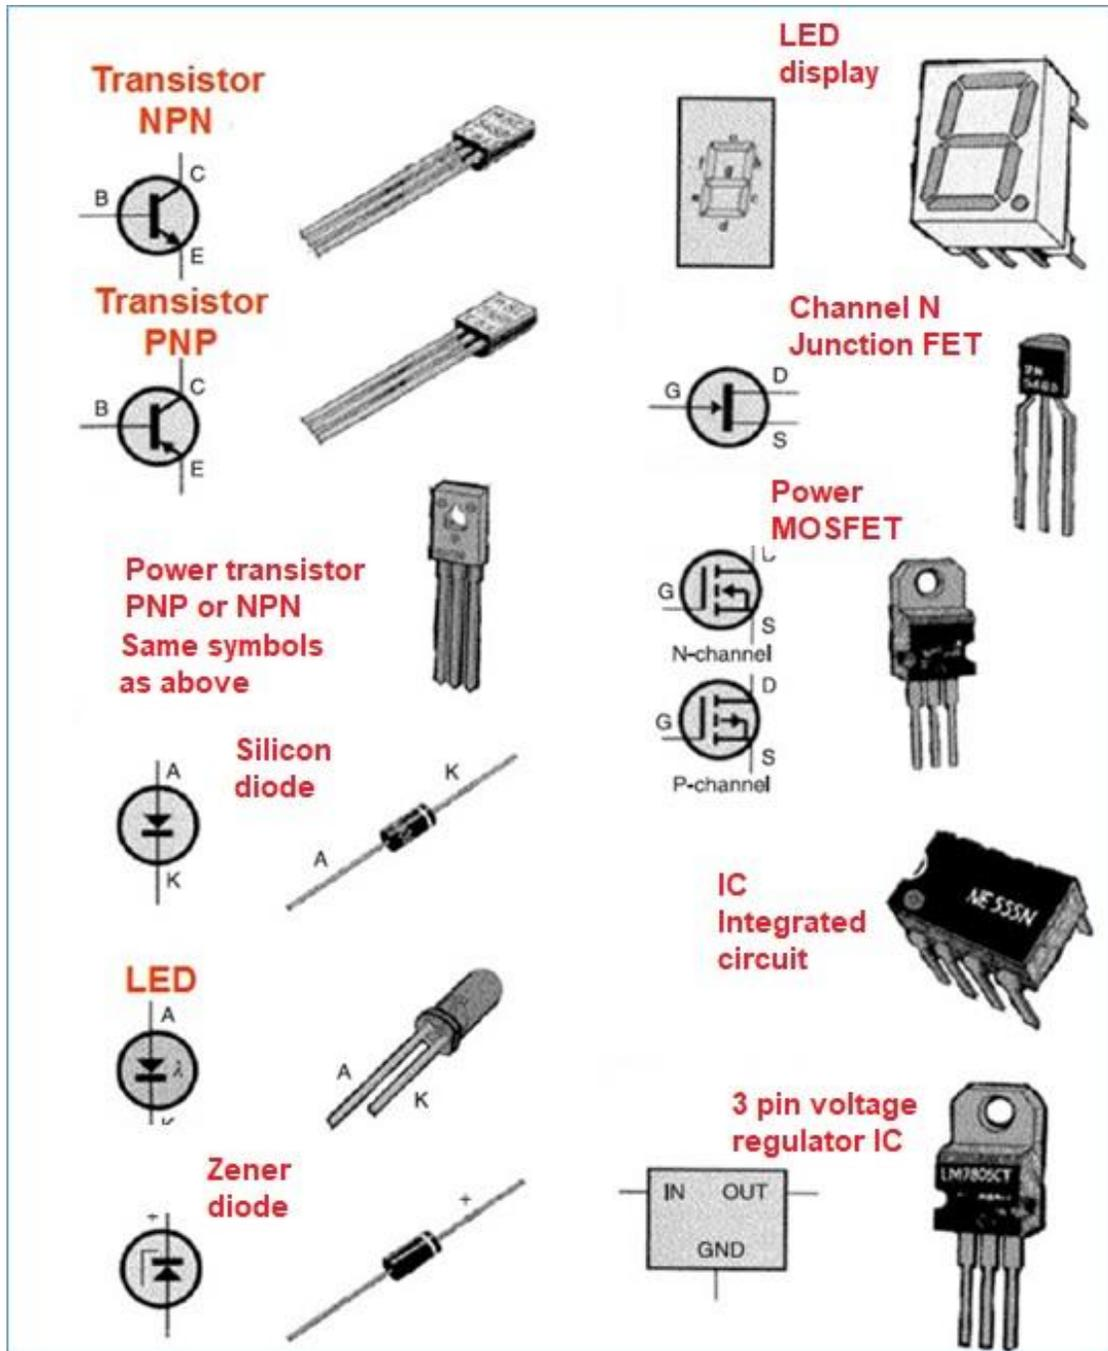

Figure 41 –Diodes, transistor, IC, etc. symbols. Courtesy MadLab Org – UK.
In your assemblies you will find a lot of types of semiconductors like diodes, transistors, SCR, thyristors, integrated circuits (IC), displays, etc. as shown in the **figure 41**.